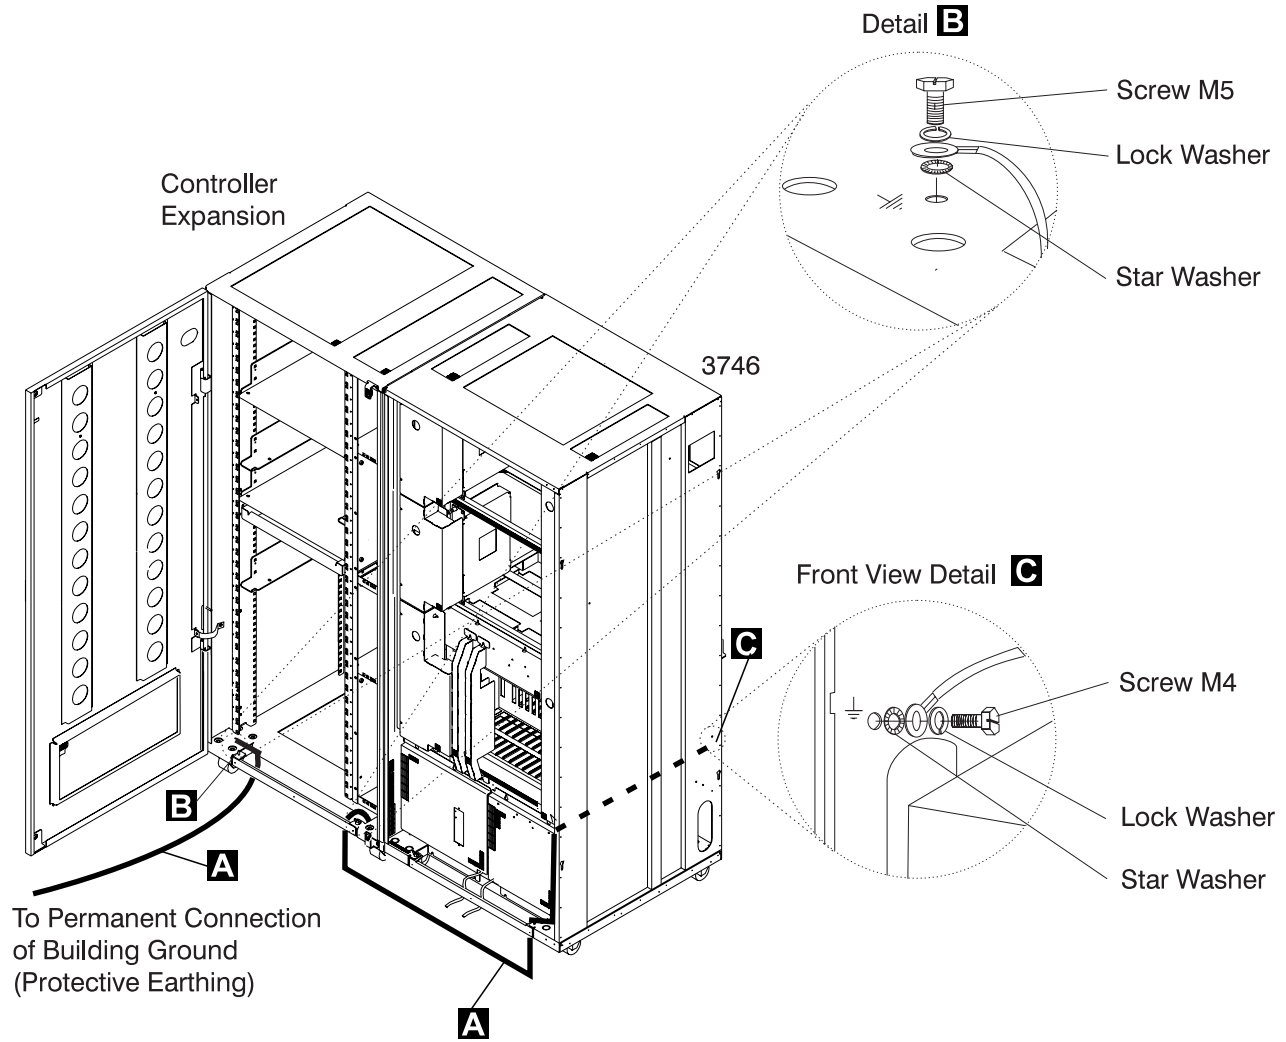
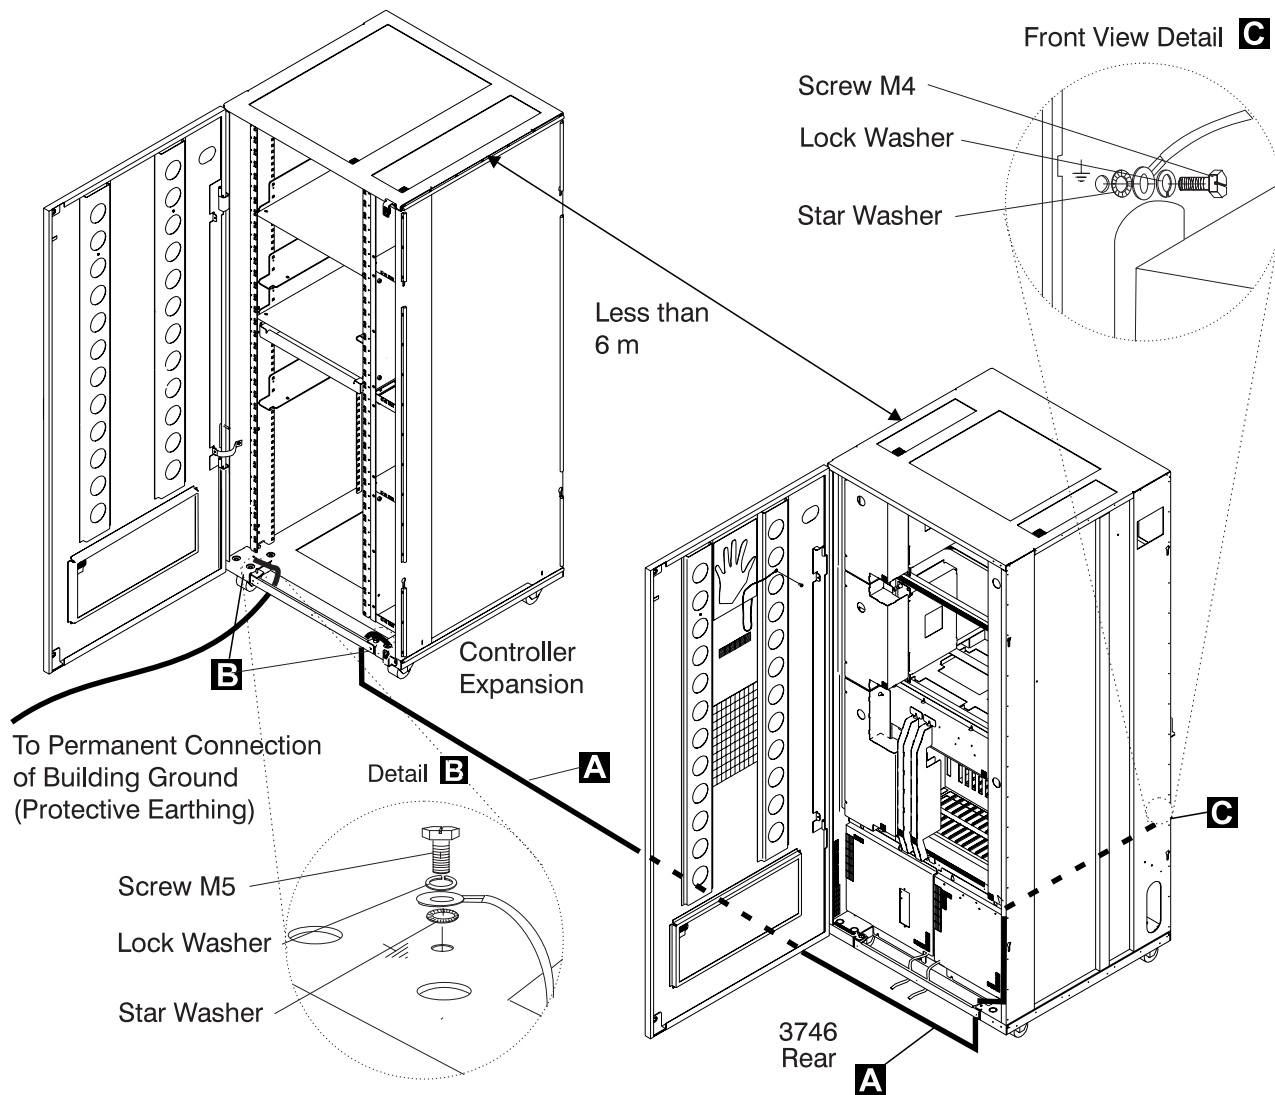
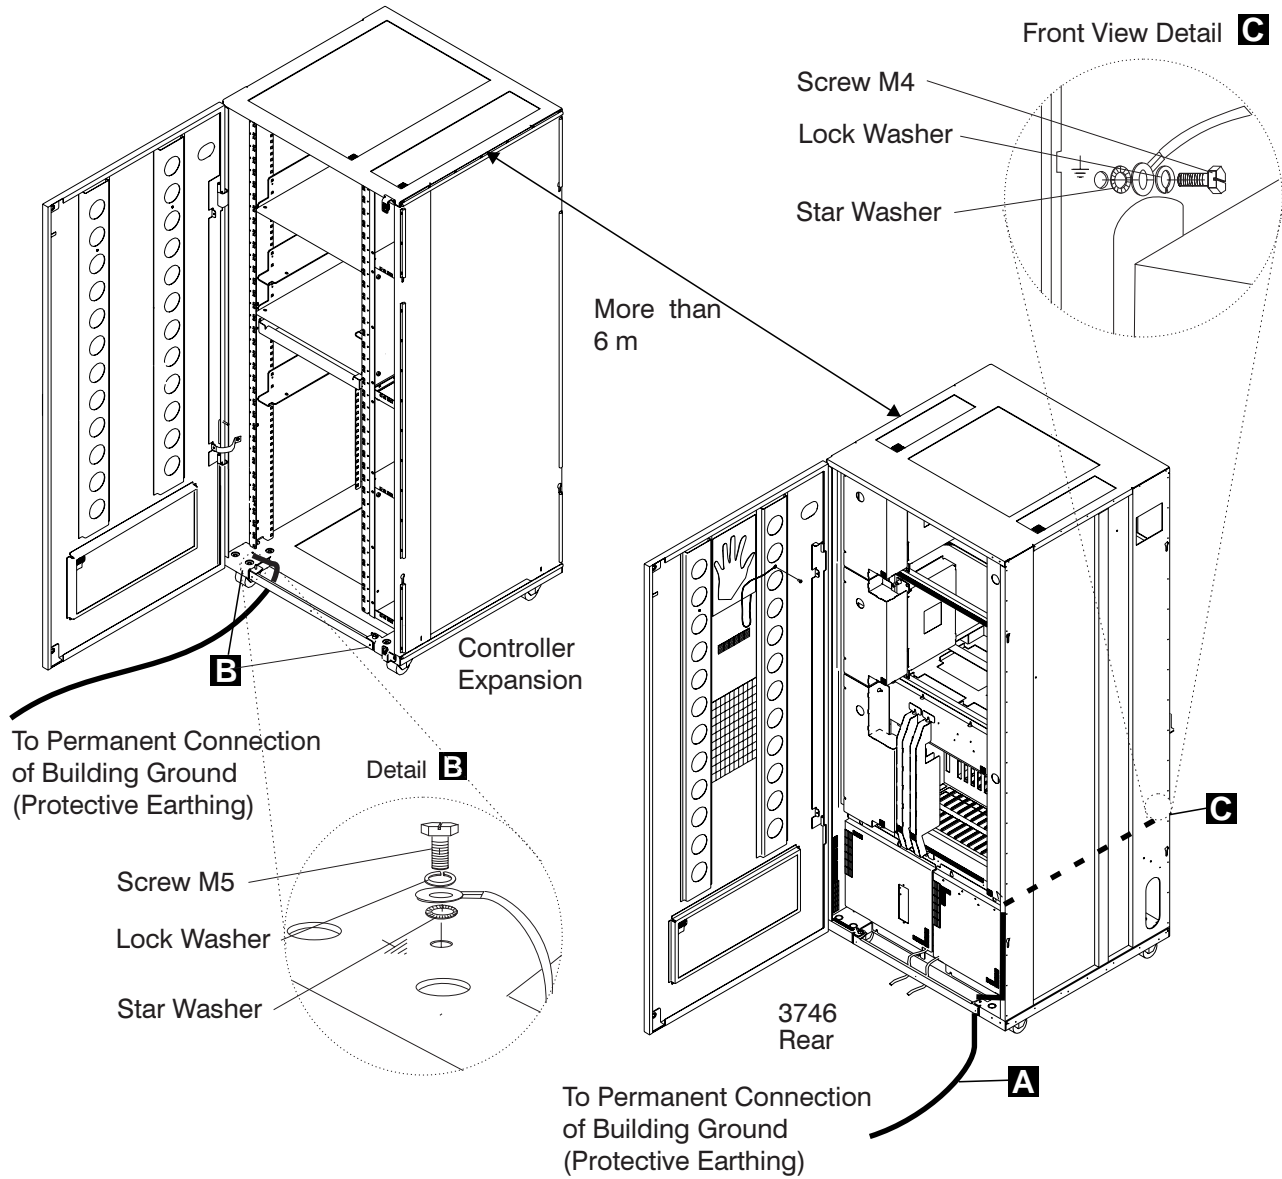

Figure 0-2. Ground Wire Connection Between the Controller Expansion and Attached 3746-950 Frame
Figure 0-3. Ground Wire Connection for the 3746-950 and Controller Expansion Located at Less than Six Meters
Figure 0-4. Ground Wire Connection Between the Controller Expansion and 3745-950 at more than Six Meters
Do not remove the power cords and ground wire **A** on the 3746-950 and controller expansion in order to maintain the ground protection (see Figure 0-2 on page xx, Figure 0-3 on page xxi, or Figure 0-4 on page xxii).
- Check the presence of ground wire **A** according to your configuration (see Figure 0-2 on page xx, Figure 0-3 on page xxi, or Figure 0-4 on page xxii).